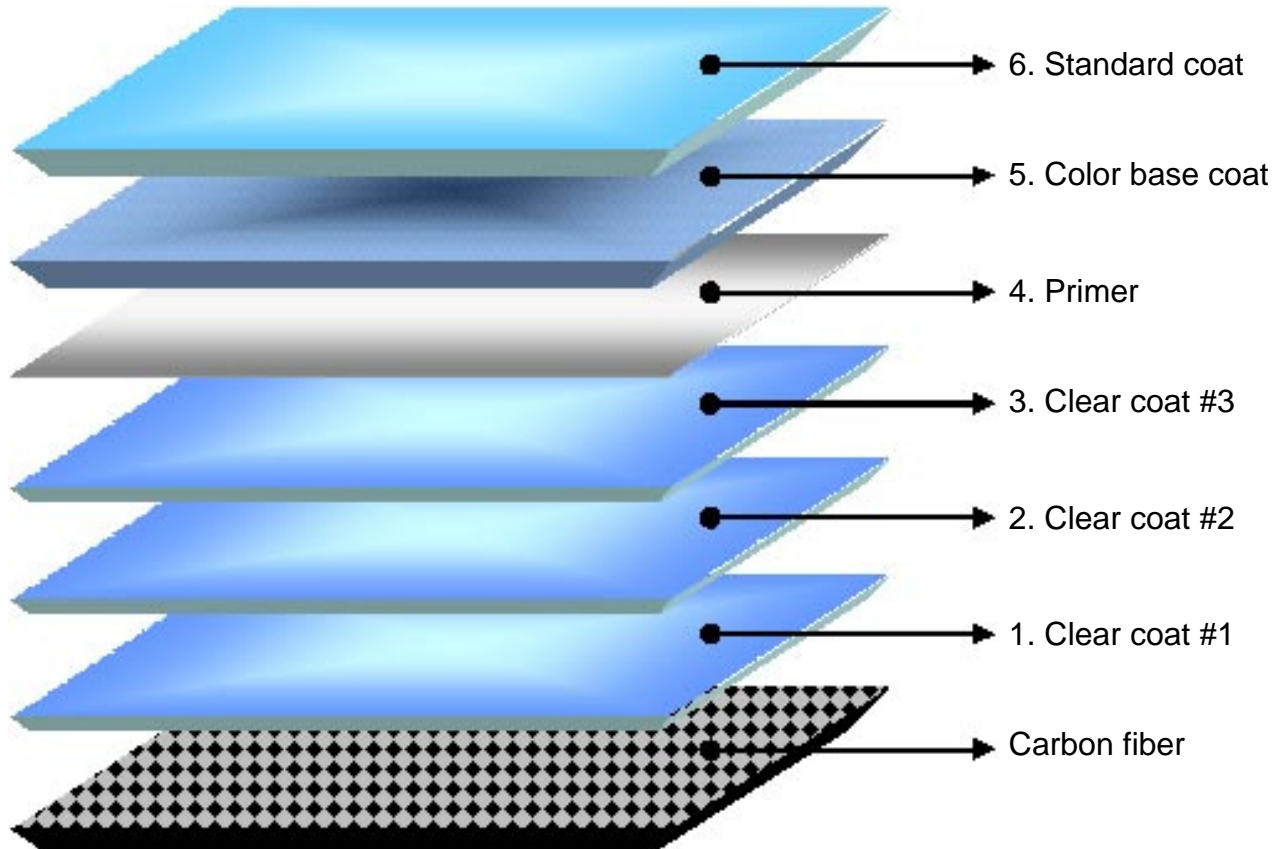

Figure 3
- When painting body color components refer to Figure 3:
- For the front and rear bumper fascia use (1) to (6) illustrated below.
- For the trunk lid assembly use (4) to (6) illustrated below.
- When painting clear coated components use (1) to (3) illustrated below.